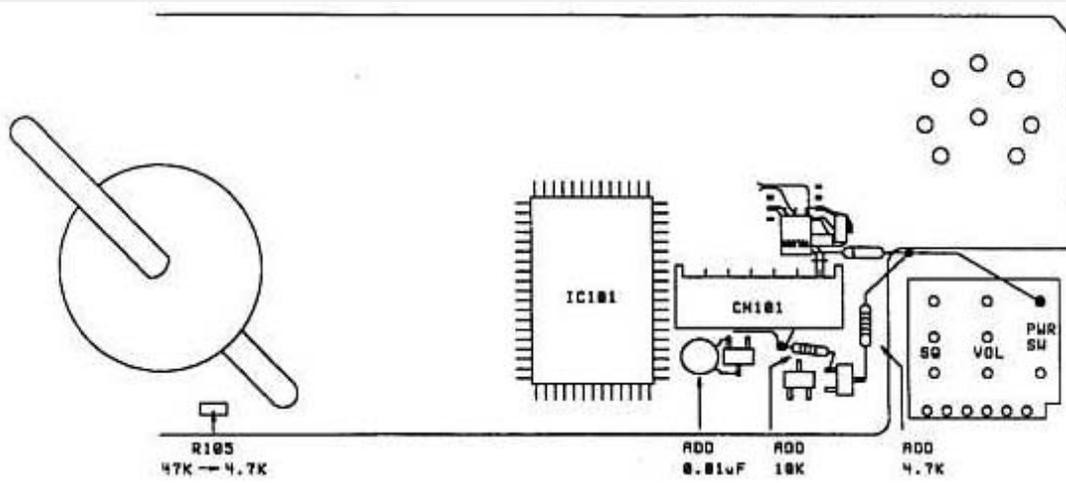

FIGURE 10
21. Prepare the 0.01  $\mu$ F capacitor, 10 Kohm resistor, and 4.7 Kohm resistor for installation. Place the parts on the board to size and cut the leads. Once the parts are prepared, solder them to the board. Figure 10.
22. Locate R105. If the component is 47 Kohm, change it to a 4.7 Kohm chip resistor. The component's value can be determined by the numbers written on the case. If the device is labeled 473, it is a 47 Kohm resistor and needs to be replaced. If the device is labeled 472, it is a 4.7 Kohm resistor and does not need to be replaced. Figure 10.